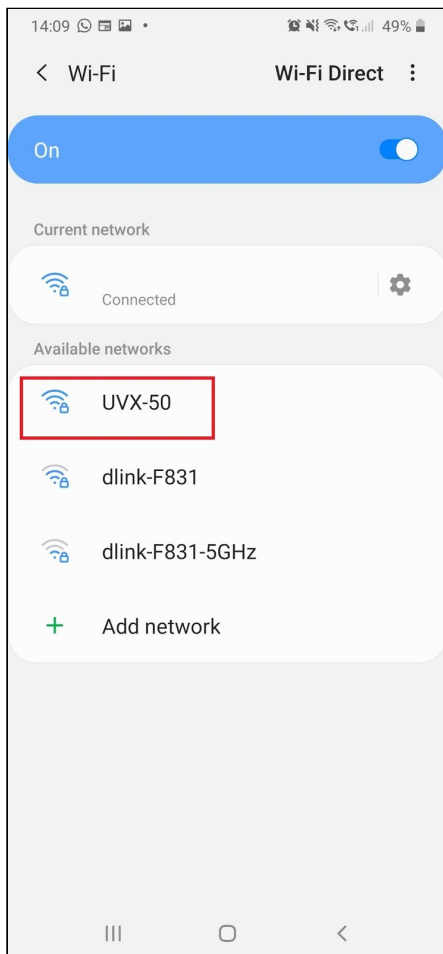

Figure 3: Wifi settings on smartphone
4. Open the Wifi connection page on any smartphone. See figure 3 below.